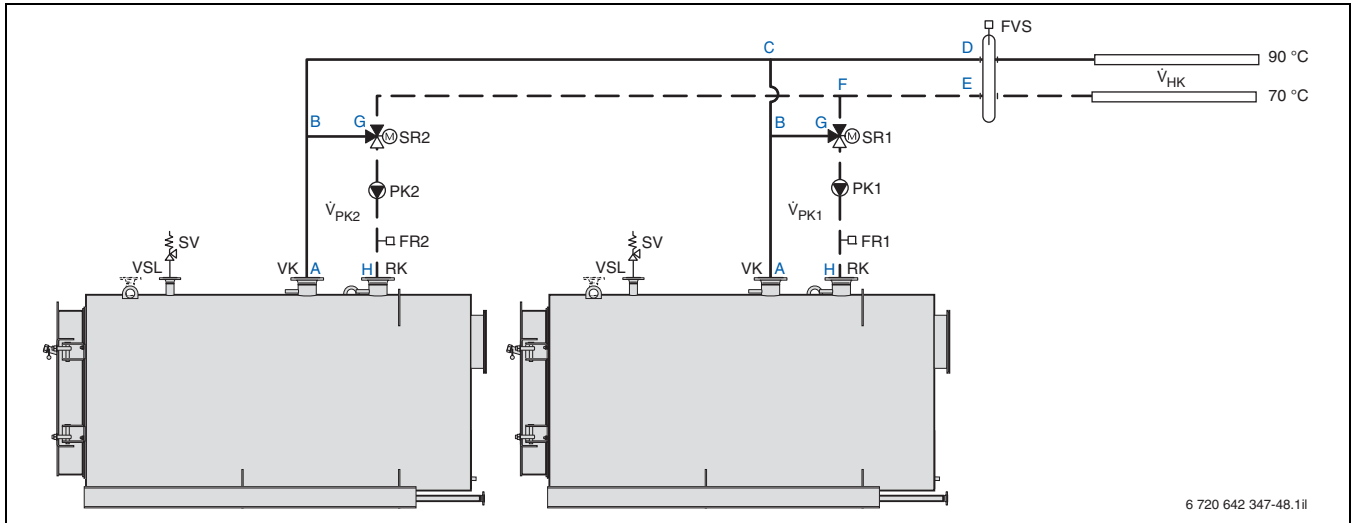

Fig. 36 Sample hydraulic circuit for a 2-boiler system with boiler circuit pump as primary circuit pump
- All individual pressure loss levels in the boiler circuit (path: A–D–E–H, → Fig. 36).
(paths: C–D and E–F, → Fig. 36)
(paths: A–C, B–G and F–H, → Fig. 36)